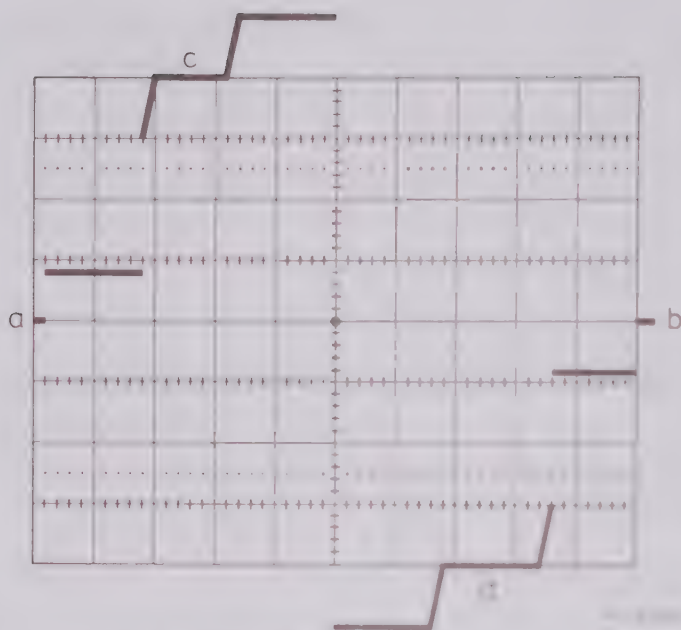

Figure 9.1 Service menu DISPLAY 5.
- Now the display switches between two patterns of which one is like figure 9.1.
Adjust R2334 on unit A2 so that the vertical jump of the small horizontal lines (marked with a and b in figure 9.1) is minimal (max. allowed jump 0,1 div).
- Adjust the Yx1 gain R2513 on unit A1 so that the vertical distance between the two horizontal lines is 8 div (max. deviation 0,1 div) such as given in figure 9.1 (lines c and d).
- Adjust the horizontal gain R2566 on unit A1 so that the distance between the starting points of the small horizontal lines a and b in figure 9.1 is 10 div (max. deviation 0,1 div).